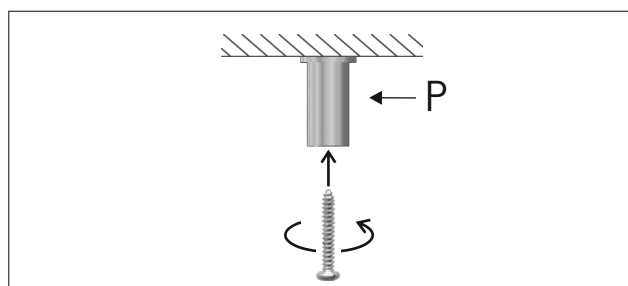

Figure 15
- 15 - Screw both gripper supports (P) to the ceiling. Figure 15.